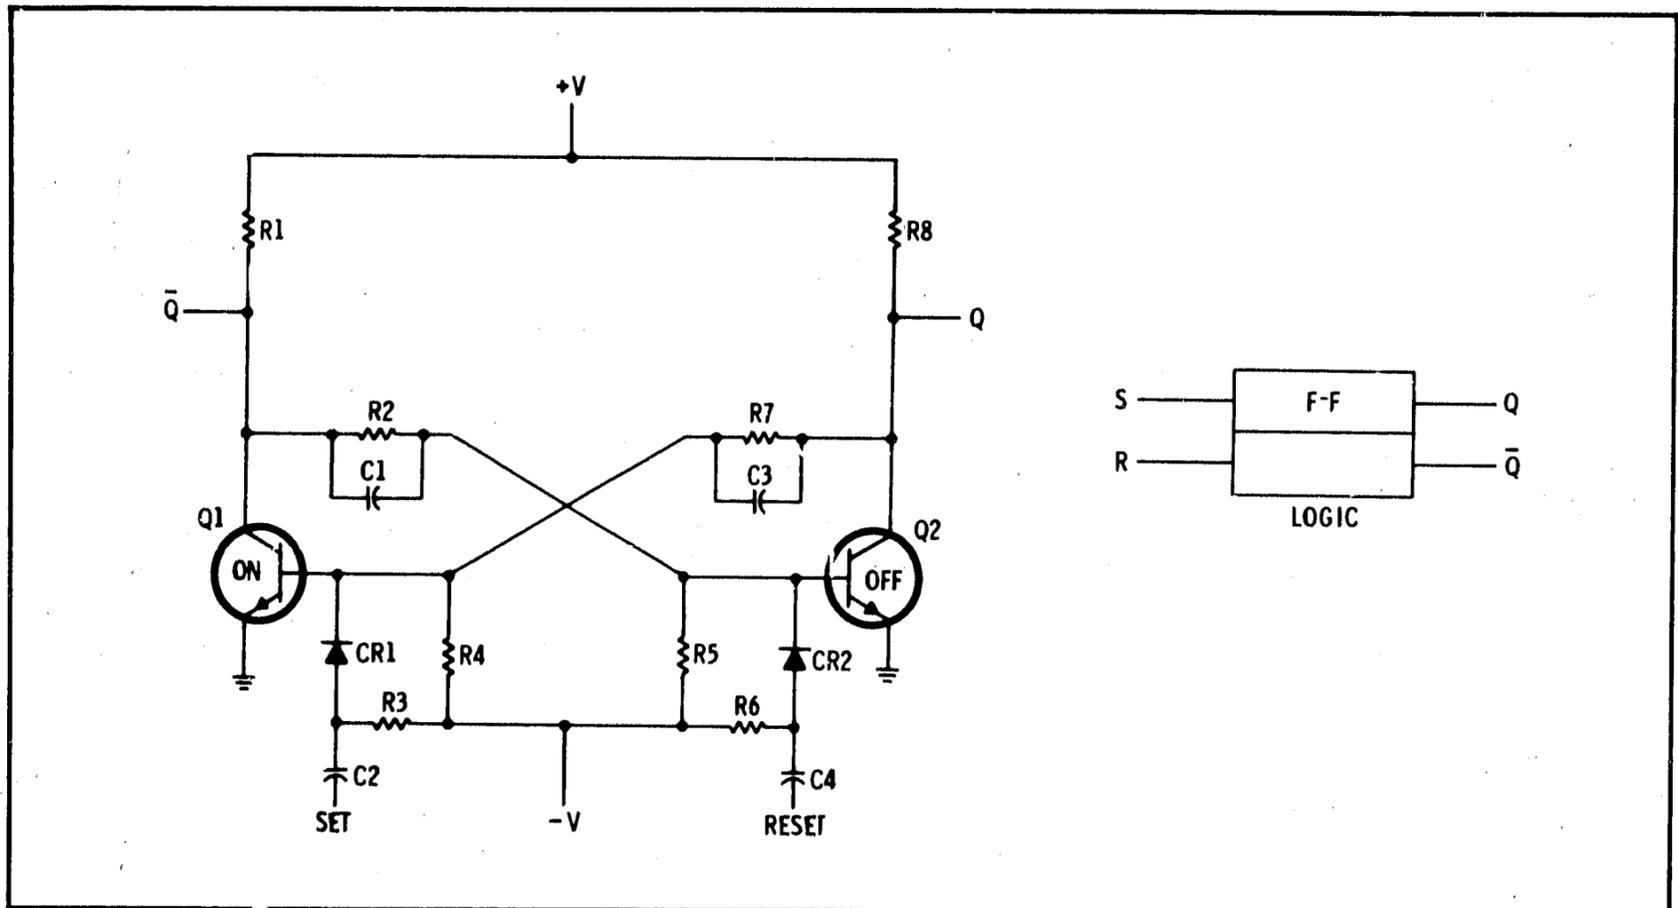

Figure 8-7. RS Flip-Flop
8-38. Reset-Set (RS) Flip-Flop. Figure 8-7 shows an RS flip-flop. The RS flip-flop has two inputs, S for Set and R for Reset (sometimes labeled S for set and C for clear). Assume that initially Q is high (Q2 off) and \bar{Q} is low (Q1 on). In this state the flip-flop is set and a positive pulse at the set input will not affect the circuit. When a positive pulse is applied to the reset input it is coupled through C4 and CR2 to the base of Q2. Q2 begins to conduct and the negative going collector voltage is coupled through C3 to the base of Q1 to cut off Q1. The process is regenerative; Q1 is quickly cut off and Q2 saturates. The flip-flop will remain in the reset state until a positive set pulse is applied through C2 and CR1 to the base of Q1. Note that operation of the RS flip-flop is the same as operation of the basic NOR gate flip-flop described in paragraph 8-36.